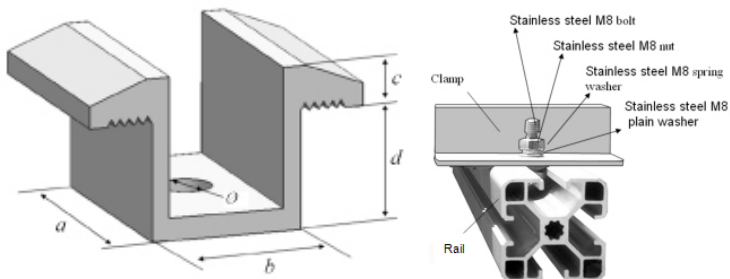
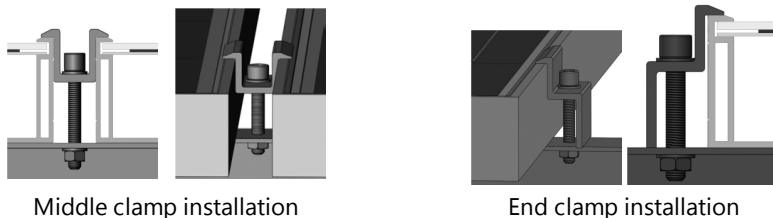

Figure 2: Middle clamps (left) and side clamps (right)
Figure 3: End clamp and middle clamp installation
The dimensions for the middle clamps are: $a \geq 40$ mm, $b \geq 26$ mm, $c = 8$ mm, $d \geq 28$ mm, and $\varnothing = 9$ mm (See *Figure 2*)
- Close-ups of the middle clamps and the side clamps are indicated in *Figure 2* and *Figure 3*.